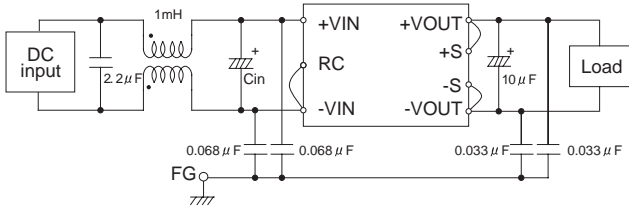

Fig.3.1 Recommended external input filter
(3) Recommended of noise-filter
■ Install an external input filter as shown in Fig.3.1 in order to reduce conducted noise. C_{in} is shown in Table 2.1.